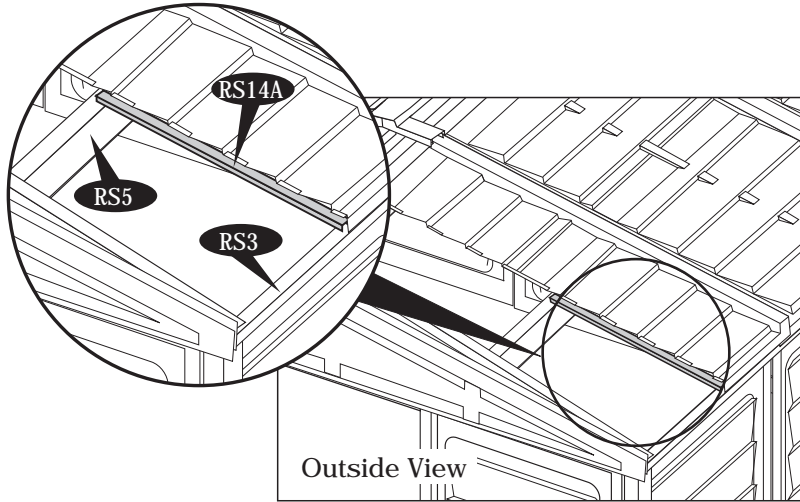

Fig. 1
7. Insert the sagging support (RS14A) from inside the shed by sliding in between roof structure (RS5) and roof panel until it reaches (RS3) roof structure for each panel. See fig.1.